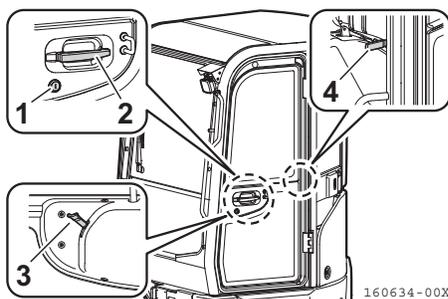

Fig. 2-82
1. Insert the starter switch key into the key hole (**Fig. 2-82, 1**) and turn it counterclockwise (clockwise) to unlock the side door.
2. Pull the outer handle (**Fig. 2-82, 2**) to the side to open the side door.
1. Push the inner handle (**Fig. 2-82, 3**) forward to open the side door.
Push down the lever (**Fig. 2-82, 4**) on the left side of the seat.